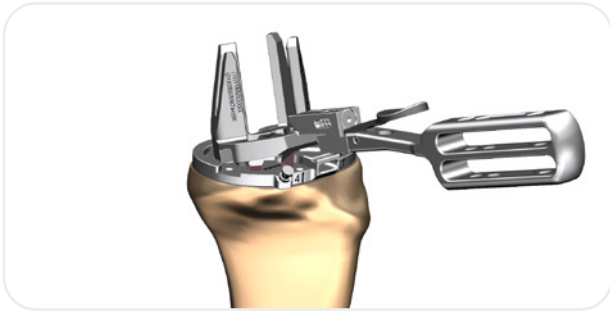

Figure 41
3. Attach a quick connect handle to the porous tibia fin punch guide that corresponds with the size of the porous tibia baseplate trial. Engage the two posterior feet of the guide into the posterior aspect of the trial (**Figure 41**).